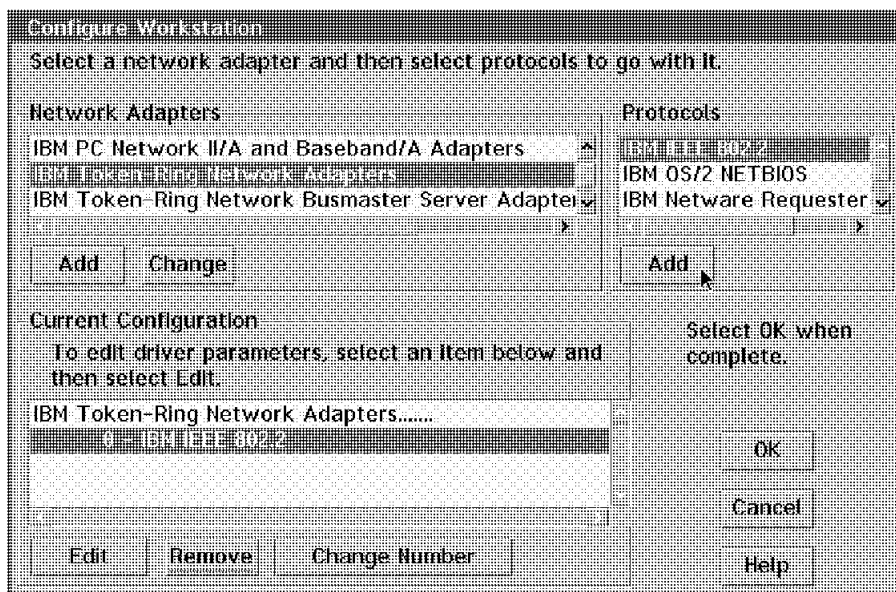

Figure 19. Adding 802.2 and NetBIOS to a Token-Ring Adapter
Step 5. Select **IBM IEEE 802.2** from the panel in the upper right corner as shown in Figure 19 and click on **ADD** as shown by the pointer.